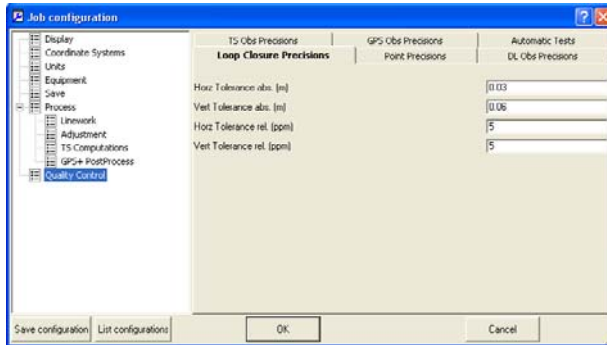

Figure 2-37. Job Configuration – Loop Closures Tab
- The *Loop Closure Precisions* tab sets the horizontal and vertical tolerances for loop closures (Figure 2-37).